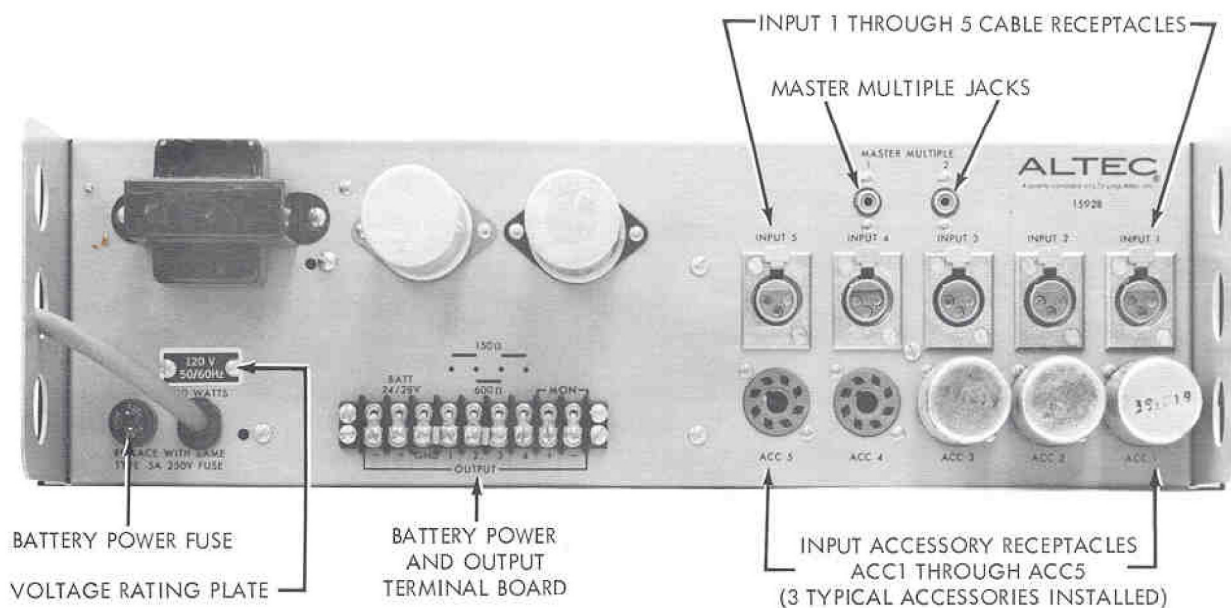
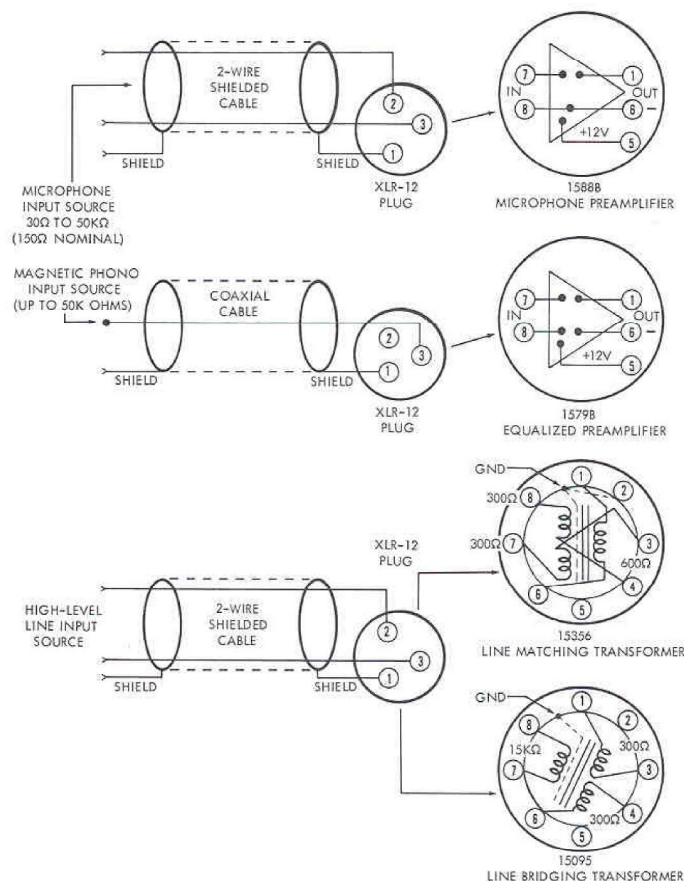
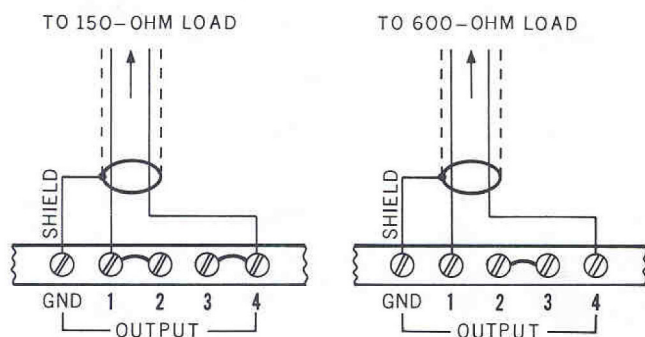

Figure 5. Rear View
Figure 7. Input Wiring for Various Applications
Figure 9. Output Wiring Connections
Equipment supplied for domestic use is provided with the power transformer primary strapped for 120 volts (terminals 1 to 2 and 3 to 4 on TB2). The power input nameplate, adjacent to the power cord on the chassis, is mounted to show the appropriate side specifying the connections (see Figure 5). Verify that line voltage is in accordance with the voltage rating before connecting primary power.
- Step 4. Remove voltage-rating plate from chassis, reverse and reinstall to show 240V rating (see Figure 5).
If desired, the 1592B may be connected to an external 24/28V dc battery with minus (-) as ground. Terminals for the dc power connections are on the OUTPUT terminal board (see Figure 5). If ac power fails, transfer to dc power is instantaneous, automatic and silent.
Inputs to the mixer channels are connected on the chassis at connectors INPUT 1 through INPUT 5 (see Figure 5), with cables terminating in XLR3-12 type plugs. Appropriate internal wiring is shown in Figure 7 for these plugs. Input for any channel may be microphone, magnetic phono, or high-level line sources.
Transformer-isolated output connections are provided at the OUTPUT terminal board on the chassis (see Figure 5) for a load impedance of 150 or 600 ohms. Figure 9 shows wiring connections. Jumpers are connected between terminals 1 and 2, 3 and 4 for 150 ohms and between terminals 2 and 3 for 600 ohms.
Two MASTER MULTIPLE jacks (see Figure 5), independent of all gain controls, enable combining additional amplifiers or mixers into one system. Two or more 1592B Mixer/Amplifiers may be combined as shown in Figure 10A. A single coaxial cable with pin tip phone plugs connects each amplifier. Either MASTER MULTIPLE jack may be used for interconnection.